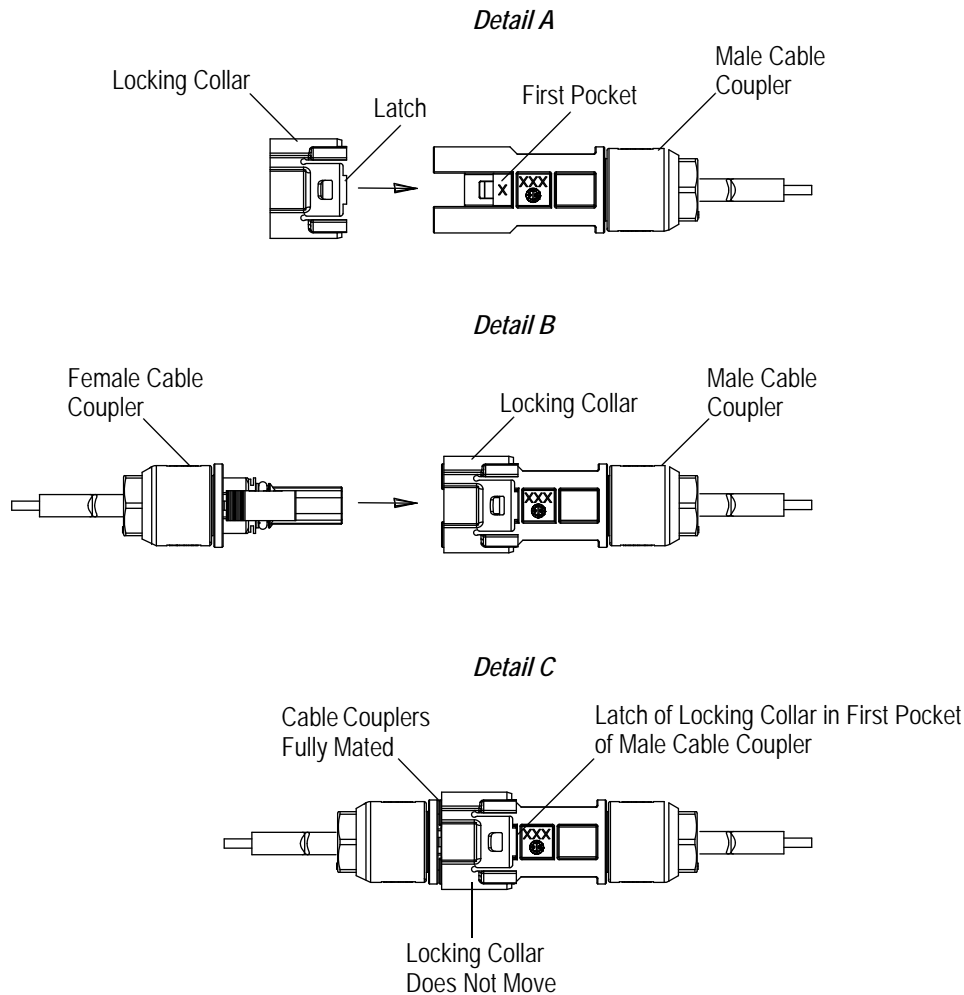

Figure 2
1. The locking collar must face the mating end of the male cable coupler with the latch of the locking collar aligned with the pockets of the male cable coupler, then slid onto the male cable coupler until the latch sits in the first pocket. See Figure 2, Detail A.
2. The female cable coupler must be properly aligned with the male cable coupler, then mated. See Figure 2, Detail B. When the cable couplers are fully mated, there will be an audible "click." See Figure 2, Detail C.